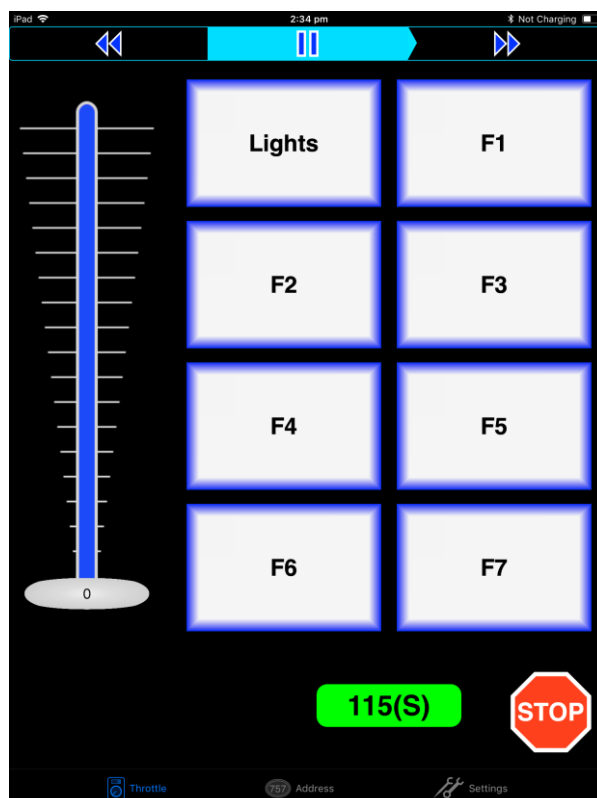

Figure 10 The WiThrottle "Throttle" screen
(12) Tap the Throttle tab at the bottom-left of the screen and you can begin driving as Figure 10.